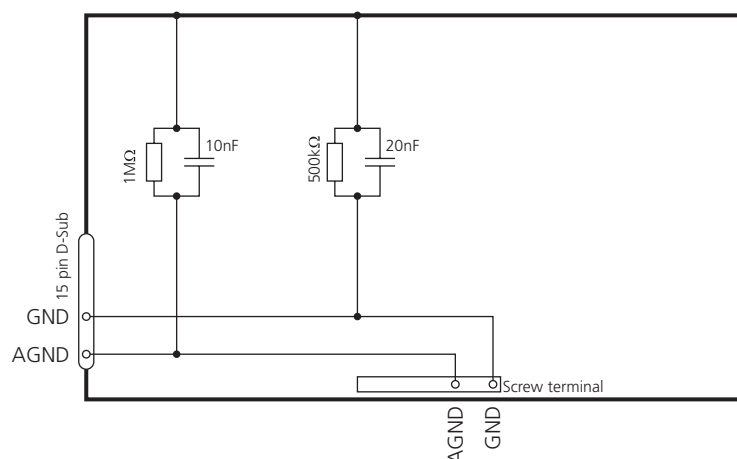

Fig. 3 Connection between shield and ground
The DLS-C(H)/FLS-C(H) contains two electrically isolated grounds, the general ground (GND) and the analog ground (AGND). GND and AGND are connected to the housing by a RC element. Please see figure 3